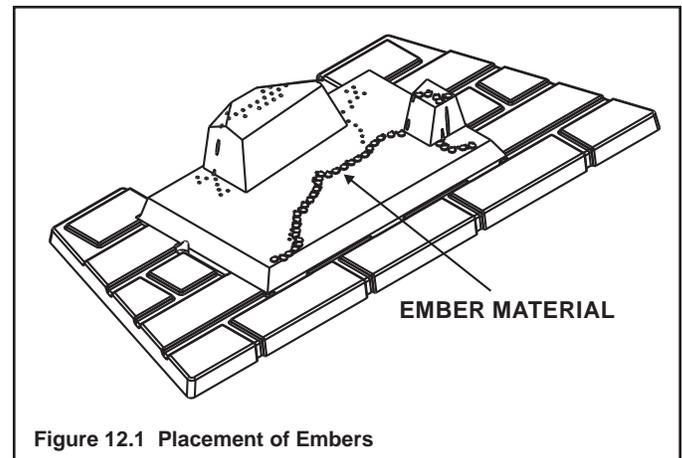

Figure 12.1 Placement of Embers
- When placing Glowing Embers® onto the burner care should be taken so that the ports are not covered. Place the dime-size ember pieces just in front of the port trail, but not on or in between the ports (see Figure 12.1). Failure to follow this procedure will likely cause lighting and sooting problems.